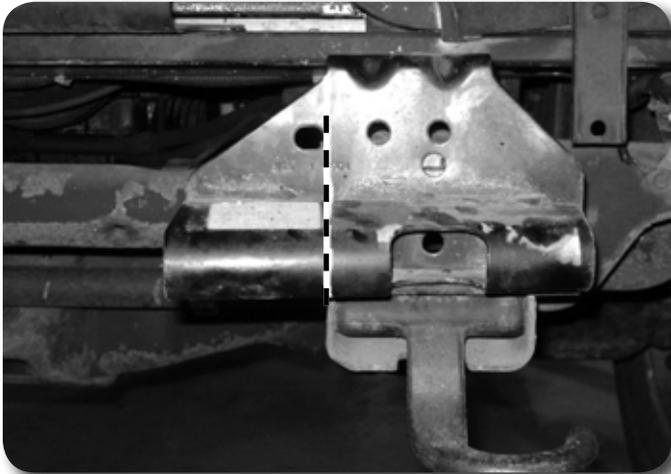

Figure 25
60. The factory front bumper mount brackets on the frame must be trimmed. Make a vertical cut line on the front mounts that is inline with the inside surface of the frame rail Figure 25. Cut the bumper mount off along the line. Paint any bare metal to prevent corrosion.